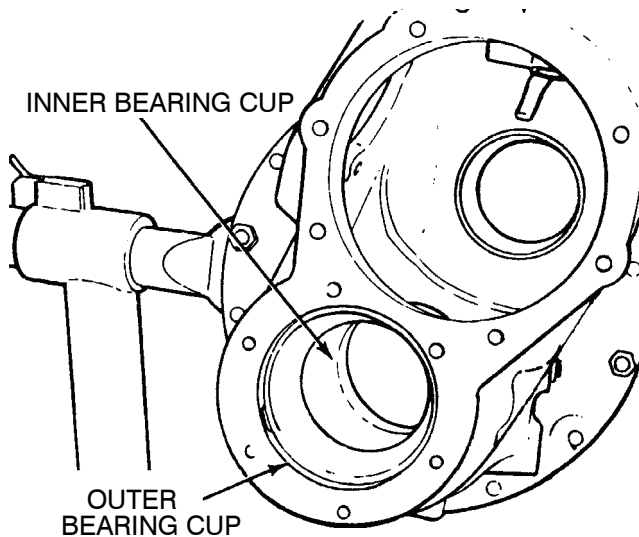

Figure 40. Carrier Bearing Cups Removal.
- (3) If necessary, remove the inner and the outer bearing cups from the carrier. Use a hammer and a drift to remove the cups from the carrier. Remove the shims that are between the inner bearing cup and carrier. Replace any shims that are damaged. Measure and record the thickness of the shim pack for use during assembly. Figure 40.